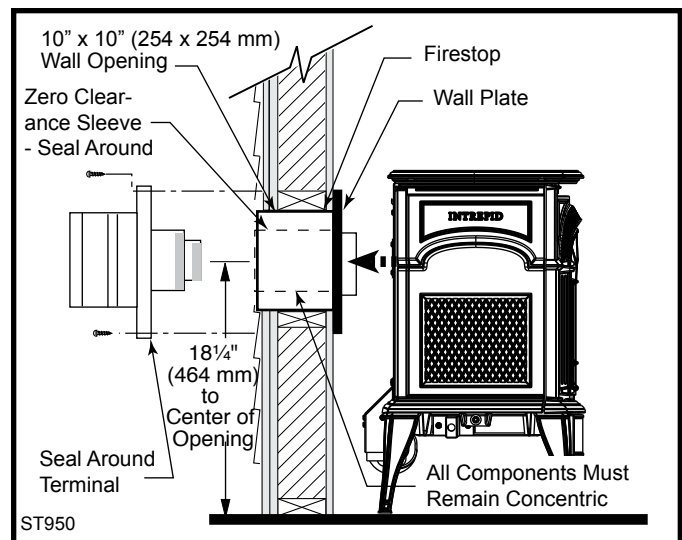

Fig. 22 Intrepid minimum horizontal rear vent installation.
2. Measure the wall thickness and cut the zero clearance sleeve sections to proper length (MAXIMUM 12"). Assemble the sleeve with the #8 sheet metal screws supplied. Attach the firestop plate to the sleeve end with the holes. (Fig. 22) **NOTE:** The zero clearance sleeve is required in combustible walls only.
5. Install the vent terminal. (Fig. 22) Guide the inner and outer vent termination collars into the adjacent pipes. Double check that the vent pipes overlap the collars by 2". Fasten the termination to the outside wall with the screws provided, and caulk the joint with weatherproof sealant.